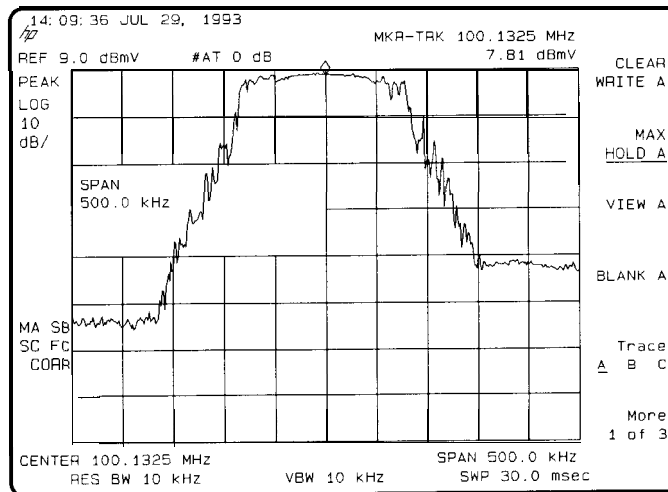

Figure 4-9. Viewing an Unstable Signal Using Max Hold A
Refer to Figure 4-9. Notice that the signal has been held in the center of the display.
5. To measure the excursion of the signal, press (TRACE), then MAX BOLD A. As the signal varies, maximum hold maintains the maximum responses of the input signal, as shown in Figure 4-9.